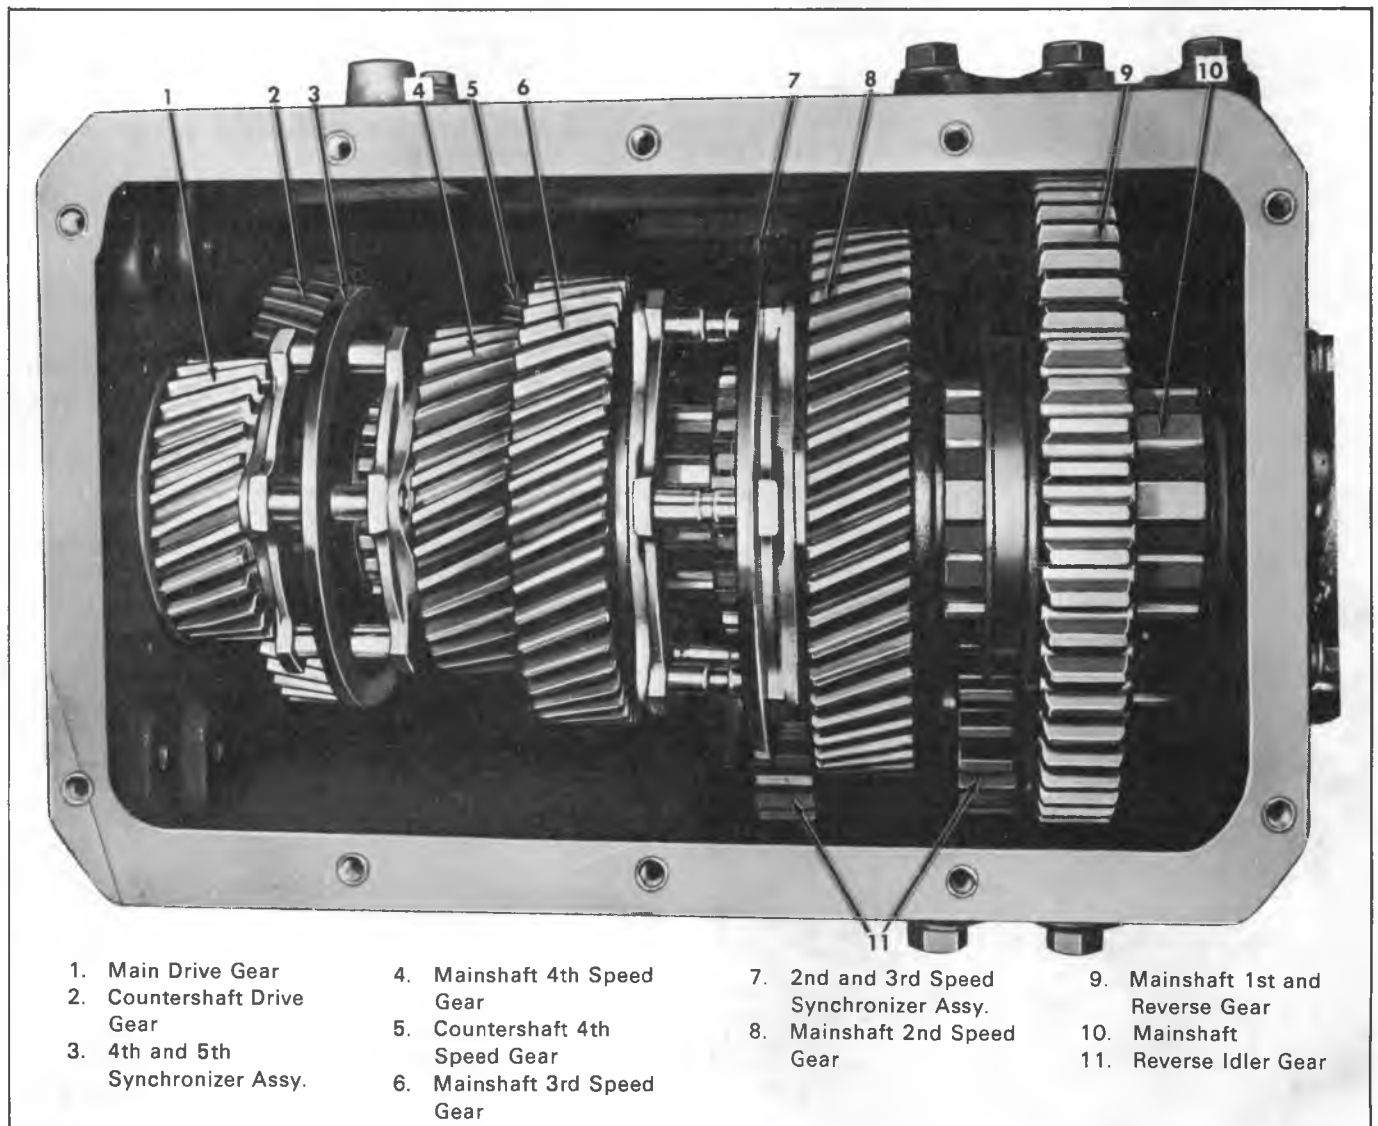

Fig. 2P--Transmission--Shift Bar Removed
3. Remove bolt and lock washer assemblies, then remove the shift bar housing and gasket from transmission case (fig. 2P). Discard gasket.